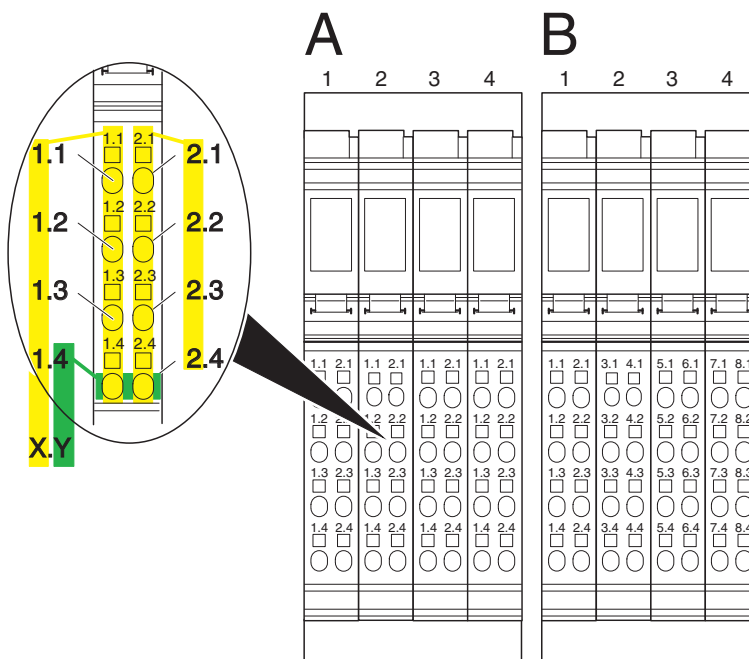

Figure 7-6 Terminal point numbering
The slots (connectors) on a base are numbered consecutively. This numbering is **not** indicated on the terminal (shown above the terminals in Figure 7-6).
**1 Terminal point numbering by connector** (detail A in Figure 7-6):
**2 Terminal point numbering by channel** (detail B in Figure 7-6):